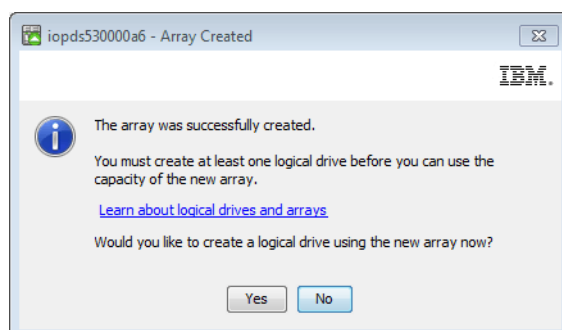

Figure 2-52 Raid creation finish panel
- After you click **Finish**, you will see the panel shown in Figure 2-52. If you want to create more RAID Arrays, then you can select **Yes** and it will take you back to step 4 in this section. For our configuration, we select **No**.